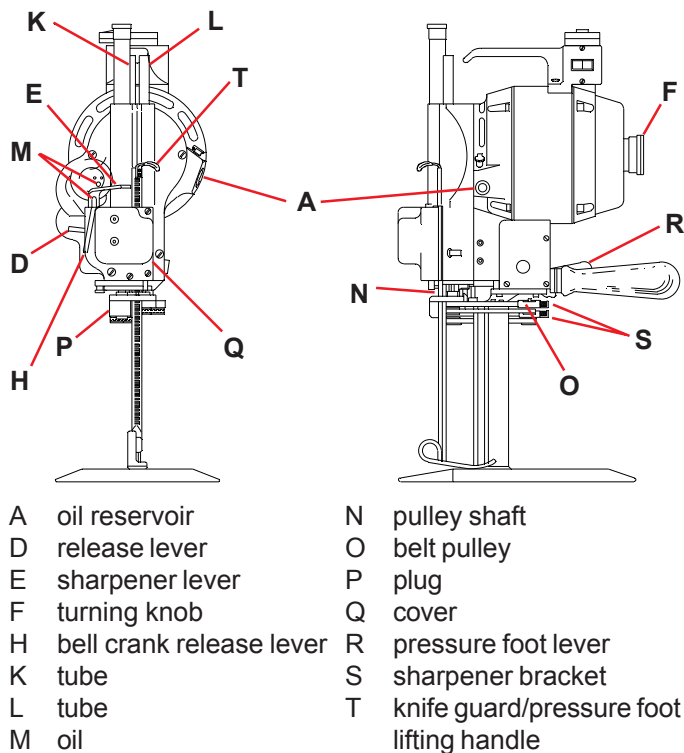

Figure 2. Controls and Adjustments
1. Check that the electrical supply current and voltage that the machine is connected to are the same as stamped on its name plate. For three-phase machines, also check that the direction of rotation is correctly set by the turning knob (Figure 2, F). Refer to the tag attached to all three-phase machines for detailed instructions.
3. Make sure that the sharpener is in the locked position. To do this, push in the turning knob (Figure 2, F). While depressing the turning knob, turn the machine over a few revolutions by hand to see if the knife reciprocates easily. If the knife does not move easily, the sharpener may be in the unlocked position.
4. To lock the sharpener in place, lift the release lever (Figure 2, D) and press the sharpener lever (Figure 2, E) to release the sharpener. Raise the sharpener bracket (Figure 2, S) by hand to lock it in place. Once the sharpener is locked in place, you may disengage the release lever and sharpener lever. Repeat step 3 to ensure that the sharpener is now locked. If not, repeat this step.
- 7.2 Press the bell crank release lever (Figure 2, H) to disengage the sharpener mechanism from the motor.
3. Raise the knife guard/pressure foot by depressing the pressure foot lever (Figure 2, R) and lifting the knife guard/pressure foot lifting handle (Figure 2, T). Raise the pressure foot only enough to clear the material being cut.
5. Using the pressure foot lever (Figure 2, R) and the knife guard/pressure foot lifting handle (Figure 2, T), lower the pressure foot so that it is slightly above the material being cut. This will prevent the material from reciprocating.
7. When you are not making a cut, or when the machine is not in use, keep the knife guard/pressure foot lowered to the baseplate by depressing the pressure foot lever (Figure 2, R).
2. Make sure the knife guard/pressure foot is lowered to the baseplate by depressing the pressure foot lever (Figure 2, R).
Remove the cover (Figure 2, Q) and clean any lint from around the screw mechanism in the sharpener.
1. Place two drops of oil at each of the two locations shown in Figure 2, M. Use an oil can with a small spout. (A suitable oil can is furnished with the machine.)
2. Fill the oil reservoir (Figure 2, A) for continuous use. If you only use the machine intermittently, you can use less oil.
- Tubes at locations shown as Figure 2, K and L.
- Pulley shaft shown as Figure 2, N.
- Belt pulley shown as Figure 2, O.
2. Remove the plug (Figure 2, P) and insert a grease tube. Squeeze an amount of grease approximately the size of a pea into the opening.
2. Drop the knife guard/pressure foot using the pressure foot lever (Figure 2, R on page 3), located next to the machine operating handle.
3. Press the sharpener lever (Figure 2, E) downward with a slow, firm pressure to engage the sharpening mechanism. Too fast a lever action may cause the lever to lock. If this occurs, lift the release lever (Figure 2, D) and start over again.
2. Using the turning knob (Figure 2, F) raise the blade to top position.